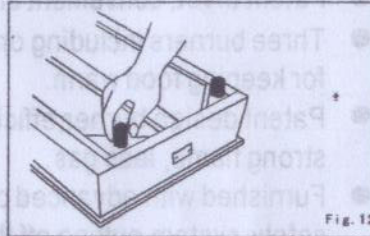

Fig. 12
4. Attach the rubber leg to the stove by turning the stove upside down and screwing them into the openings on the sooker bottom. (Fig. 12)